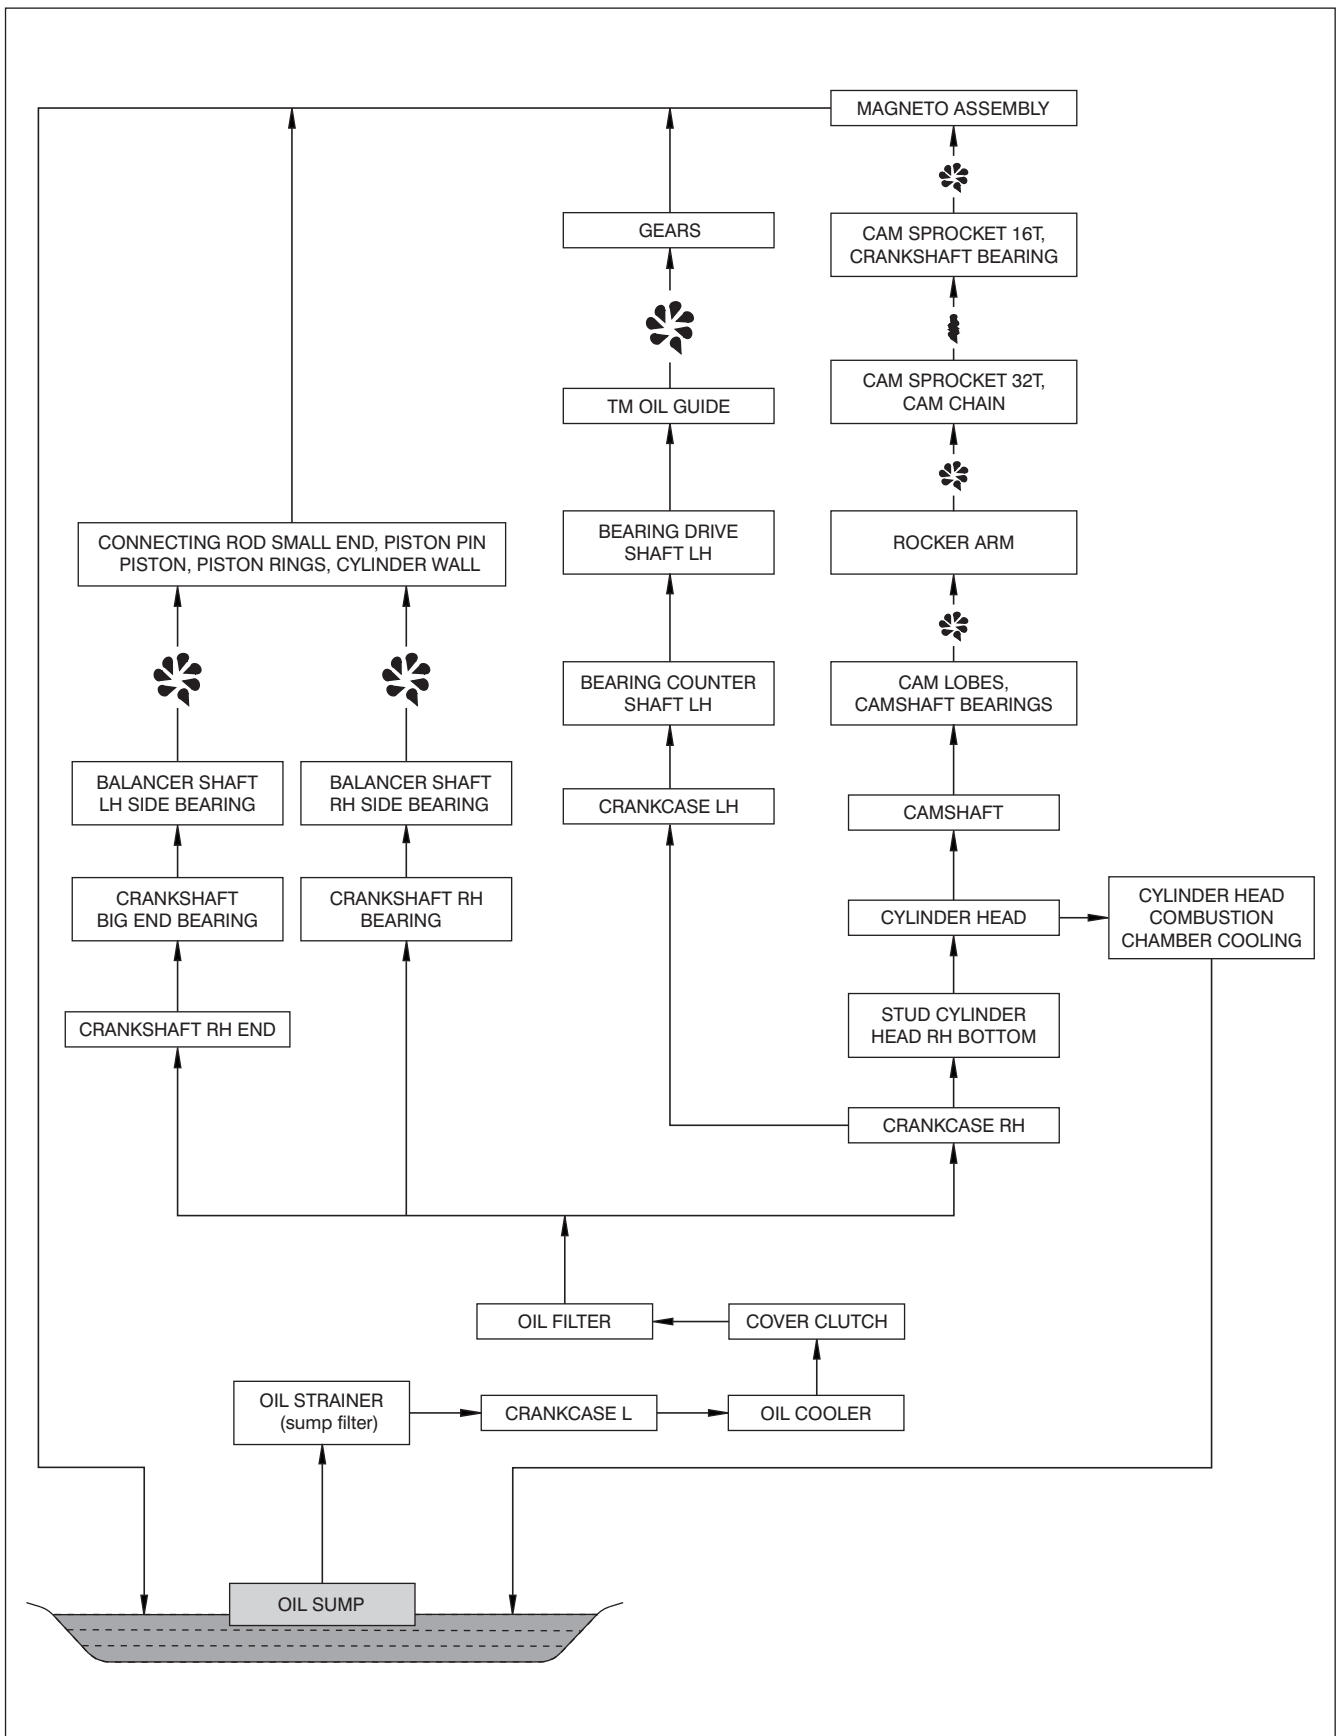

Fig. 4.16
- The oil circuit is shown in the figure. (Fig. 4.16)